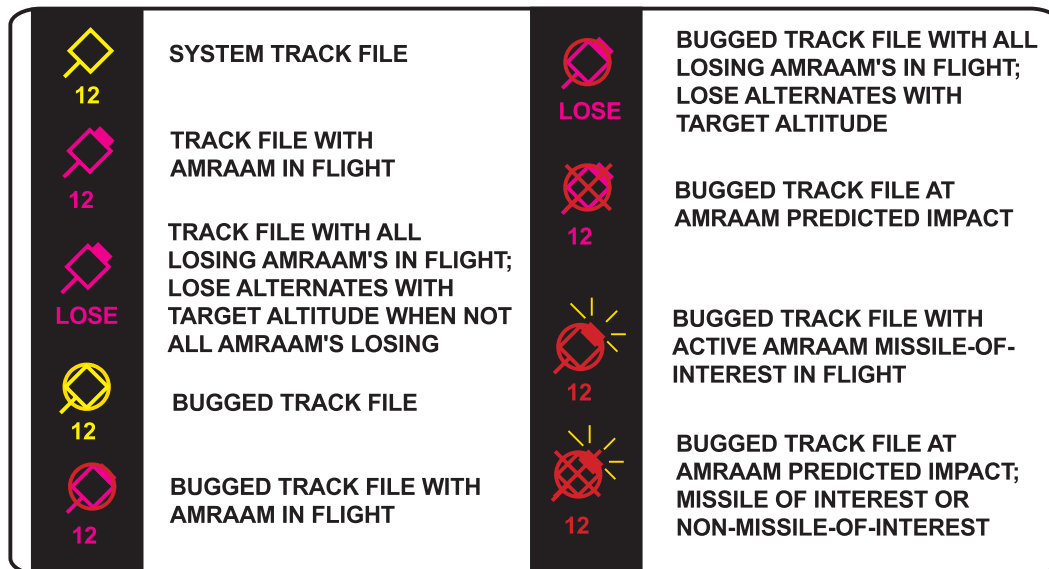

Figure 3-36 MFD Air-To-Air Target Symbology
An (X) is placed over the target symbol when any AMRAAM launched against the target times out to indicate missile impact. The “X” remains for 13 seconds (8 steady, 5 flashing). If another missile launched against the same target times out before the 13 seconds, the 13 seconds reinitializes for the second missile (Figure 3-36).